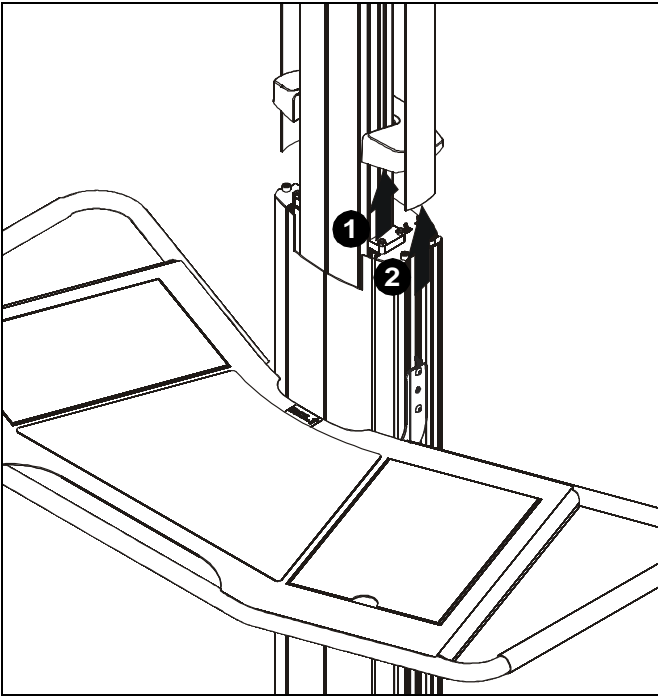

Figure 7
1. Remove column inner cover from cart/stand. (See Figure 7)
2. Remove side covers from cart/stand by sliding them up the channel. (See Figure 7)